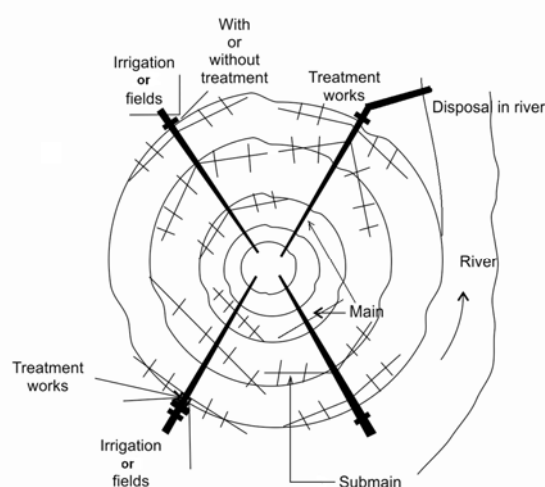

Figure 2.3 Radial pattern of collection system
- In this pattern sewers are laid radially outwards from the centre, hence this pattern is called as radial pattern (Figure 2.3).